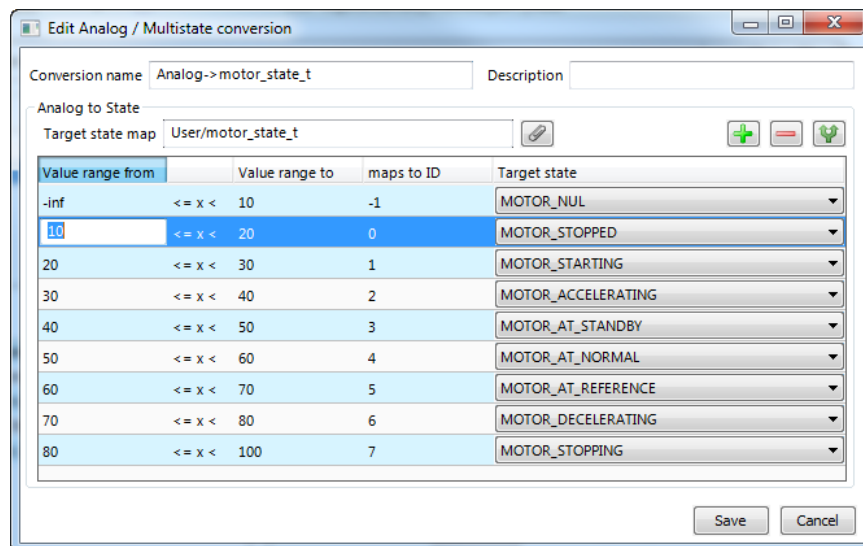

Figure 37: Edit an analog to multi-state conversion.
10. An example for editing an analog to multi-state value conversion is shown in Figure 37. Enter a **Conversion name**, then edit the **Value range from** column and select the desired **Target state** mapping.